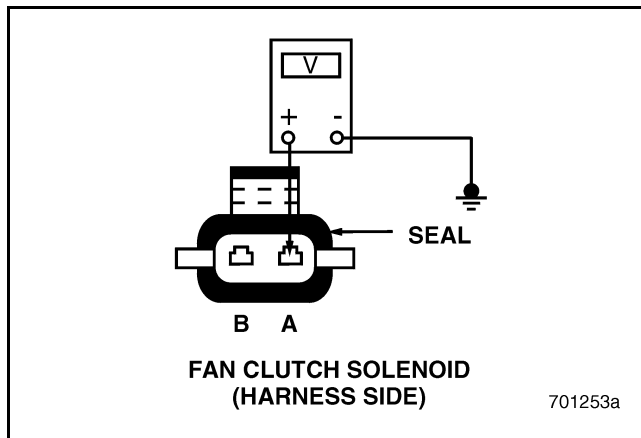

Figure 455
4. Measure the voltage between pin A of the Fan Clutch Solenoid harness connector and a good ground (see Figure 455).